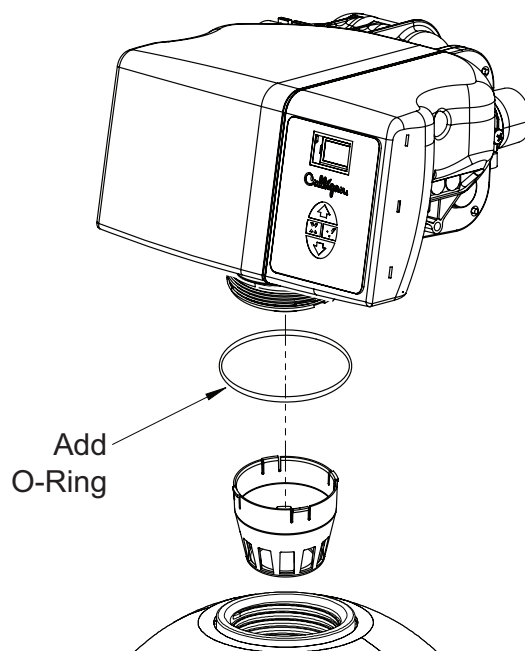

Figure 5. Mounting the control valve.
3. Lower the control valve slowly onto the tank so that the distributor tube fits into the center of the control valve and then screw the control onto the tank. See Figure 5.